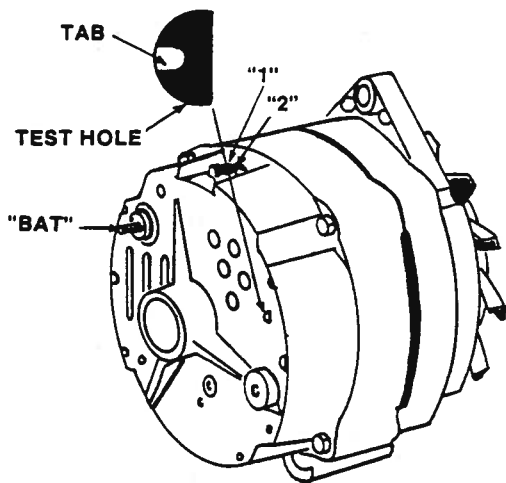

Figure 4-2. Alternator Test Points
- 1. Alternator "BAT" terminal (figure 4-2).
5. If ampere output is not within 10 amperes of 63 amperes then ground field winding by inserting screwdriver into test hole (figure 4-2). Do not force screwdriver deeper than one inch.